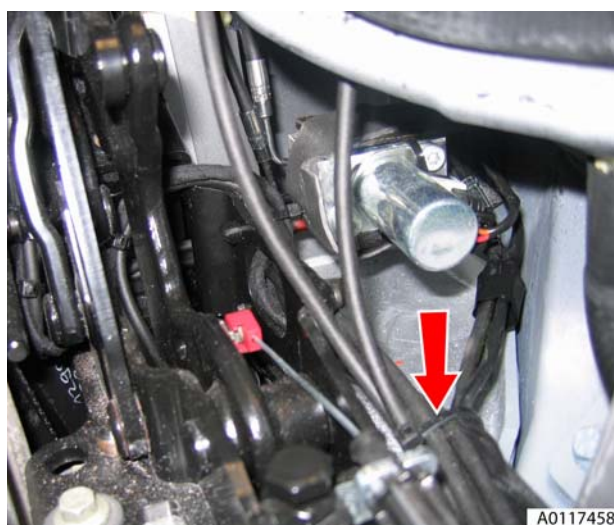

Figure 14
23. Remove cable ties and remove pipe from vehicle (see Figure 14).